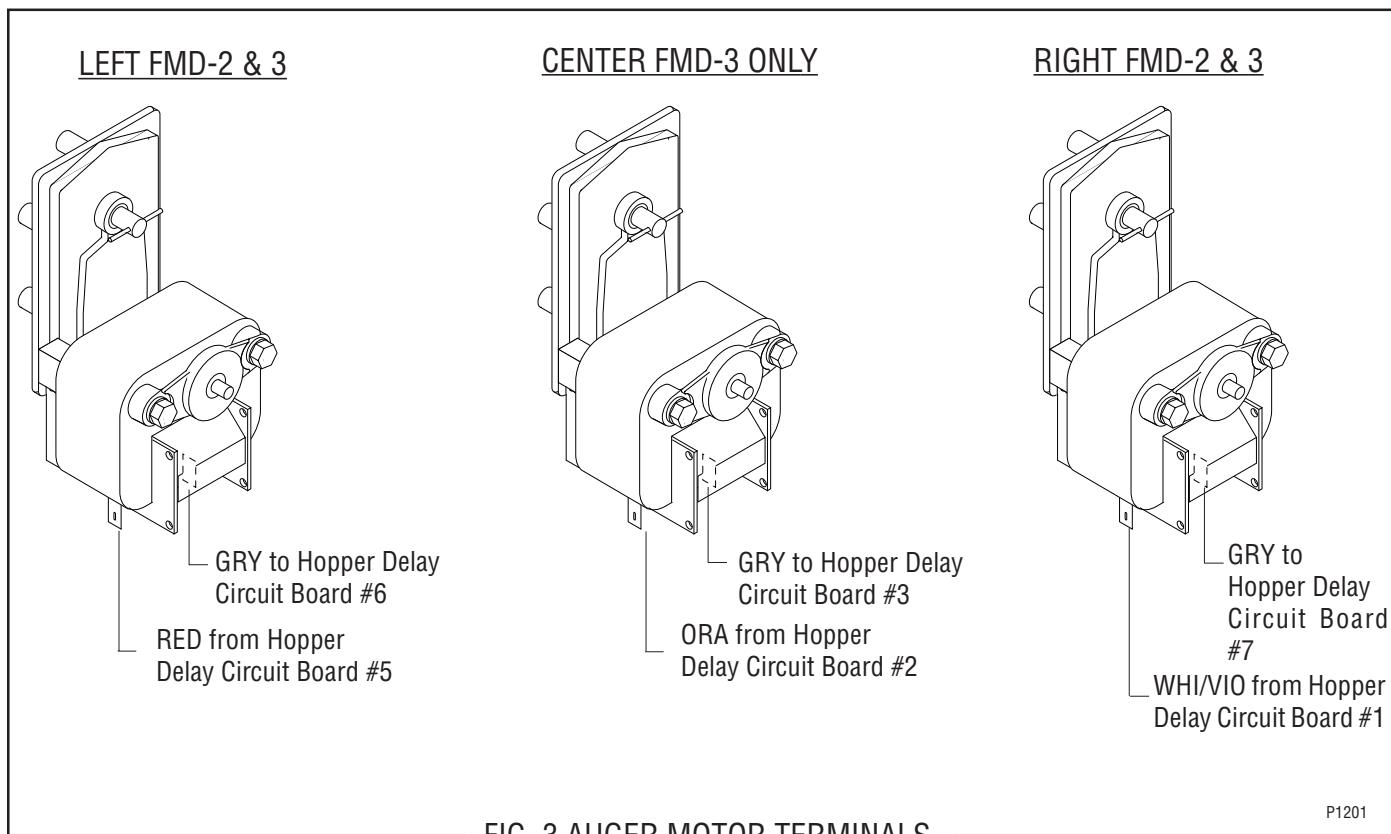

FIG. 3 AUGER MOTOR TERMINALS
4. Disconnect the wires from the auger motor (17) to be removed.
5. Remove auger motor mounting bracket (16), auger motor (17) and dust seal (18) as an assembly.
6. Remove dust seal (18) from auger motor (17).
9. Using four #8-32 screw install new auger motor (17) on mounting bracket (16).
10. Install dust seal (18) on auger motor shaft.
11. Using four #8-32 locking screws install auger motor, dust seal and mounting bracket to the rear of the auger motor mounting panel (15)
13. Install hopper support plate (20) and hopper assembly (21).
14. Refer to Fig. 3 when reconnecting wires.